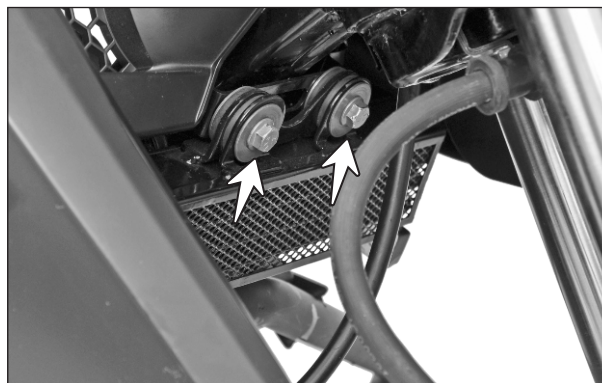

Fig. 2.60
- Remove the hexagonal flange bolts (M6x25 - 2 nos.) from the oil cooler assembly mounting and take out the oil cooler assembly. (Fig. 2.60)